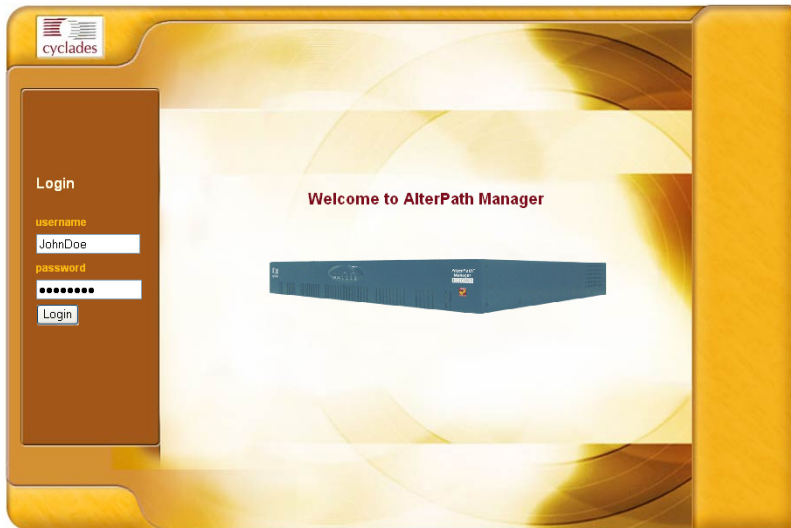

Figure 3.1 - E2000 User Login Screen
3. Type in your username and password in the corresponding fields of the Login screen. (See Figure 3.1 - Login Screen.)